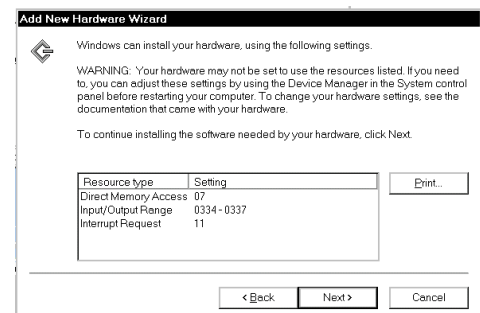
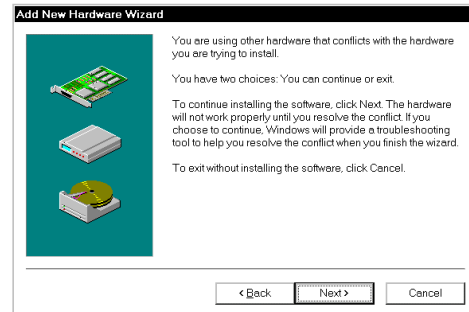

Figure 6: Sample of Card Settings. Your settings will differ.
Figure 7: System Troubleshooting Needed
8. Write down the recommended configuration for the card (Figure 6). If instead of hardware settings the message "You are using other hardware that conflicts with the hardware you are trying to install." (Figure 7) appears, go to the section titled Reallocating System Resources.
6. See if all possible IRQs for the AHA-1542CP are occupied: 9,10,11,12,14, and 15. If the Add New Hardware wizard resulted in the screen found in Figure 7, there are probably no IRQs free that the card can use. If there are free IRQs, the conflict lies in DMA or Input/Output Range. Whatever resource is fully utilized, that is the one that must be changed.
8. Once a usable IRQ or other problem resource is freed up, reboot the computer and retry the Determining Correct Settings Under Windows 95 procedure. If this second try results in a screen like figure 6, proceed to Installing the Adaptec Card.